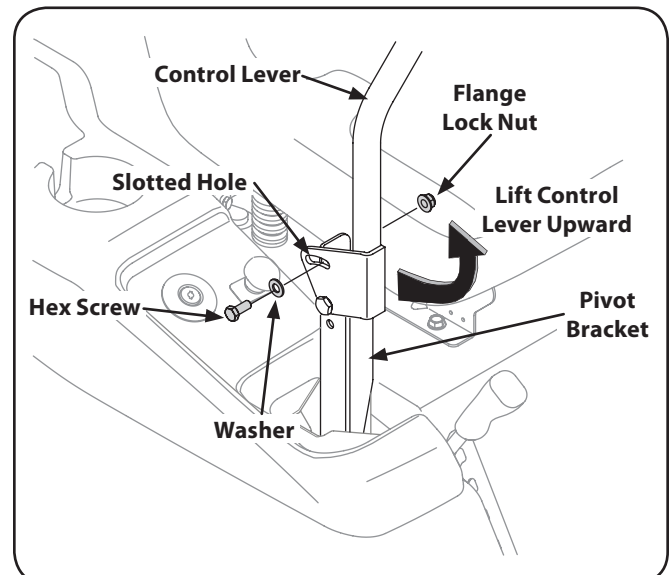

Figure 3-6
2. Lift and swing that control lever upward until the slotted hole in the lever bracket aligns with one of the holes in the pivot bracket. See Fig. 3-6.
- Slide the flat washer onto the hex screw. From the outside, insert the hex screw with washer through the control lever slot and the hole of the pivot bracket. Secure with the flange lock nut. See Fig. 3-6.